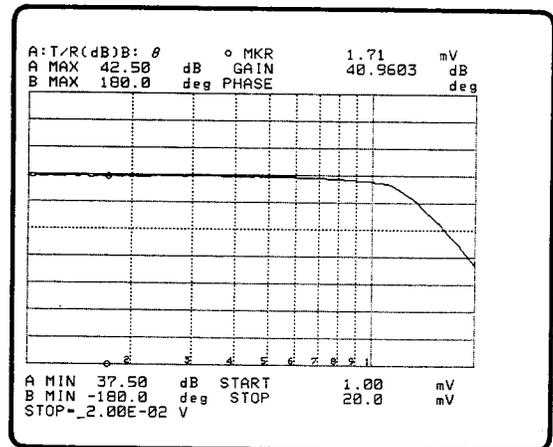

Figure 3-66. OSC Level(V) Sweep
This softkey is used to select level (V) as the sweep the test parameter. When this key is selected the units in parameter area on the screen are displayed as shown in Figure 3-66.